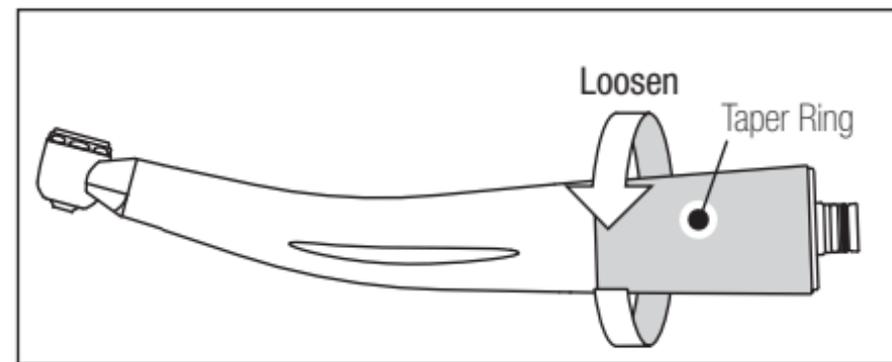

Fig. 7
- 1) Loosen and Remove the Taper Ring at the rear of the handpiece. (Fig.7)
- 1) Remove the handpiece from the coupling and loosen the Taper Ring to remove.(Fig.7)